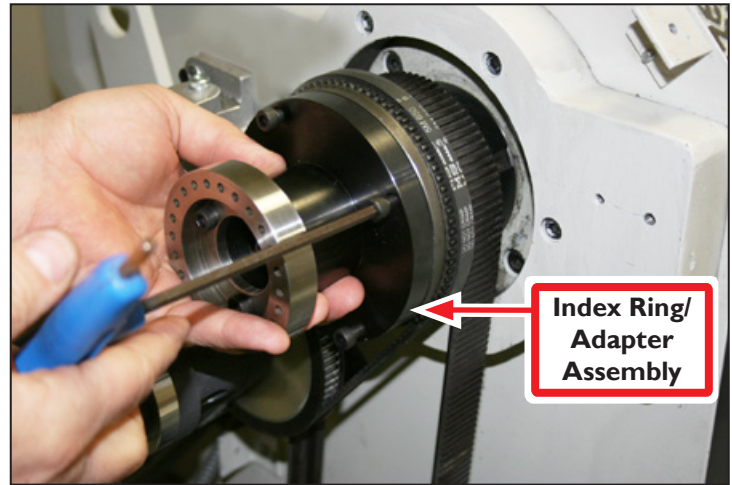

Figure 8
8. Using four M6 Socket Head Cap Screws and four M6 Lock Washers, attach Index Ring/Adapter Assembly to spindle pulley (see **Figure 8**).